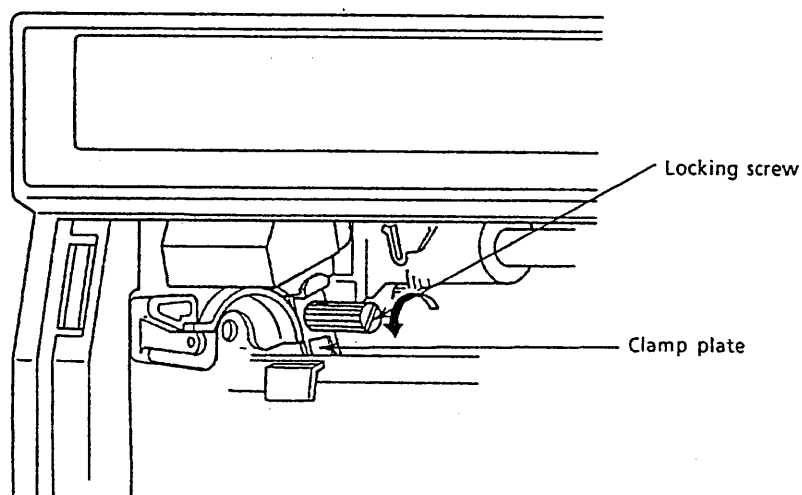

Figure 1.6
- (3) Lift the chart cassette gently and pull it towards you to separate it from the main unit (see Figure 1.6).
- (4) A screw that fastens the clamp plate is at the top left inside the internal assembly (Figure 1.6).
- (5) As shown in Figure 1.6, loosening the locking screw by turning it in the direction of the arrow and pushing the clamp plate down and away from the carriage will enable the carriage to move freely.